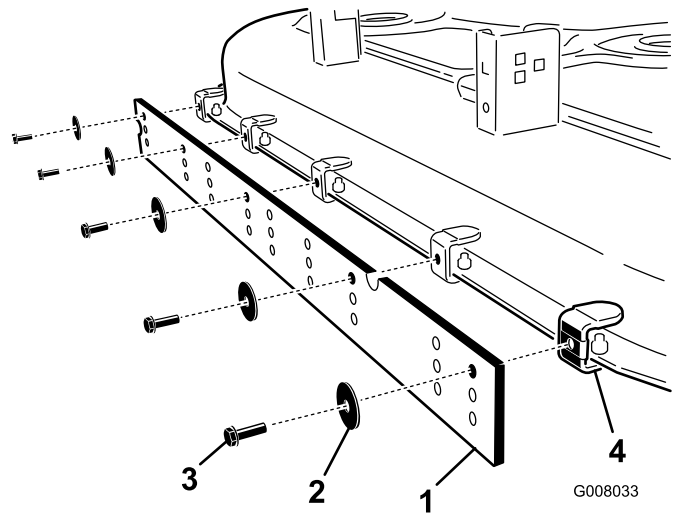

Figure 7
4. Install the wiper to the brackets (Figure 7).